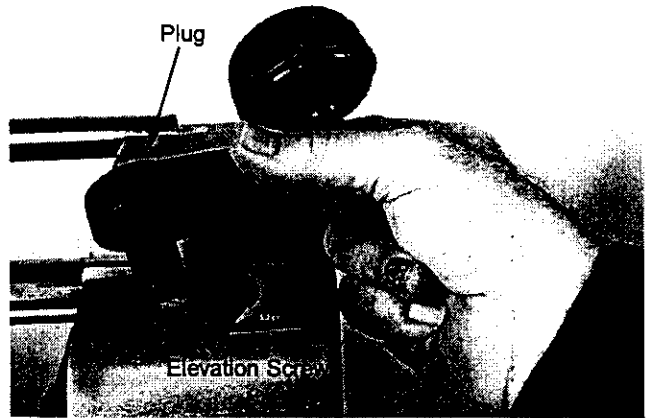

**Figure 4 - Assembled Stand**
**NOTE:** Leg set that is stamped 'A' goes in diagonally opposing corners and the plain set goes in other two corners. Leg 'A' must be installed with short brace on right and long brace on left in order for the stand to be square and level (See Figure 4, Page 4).